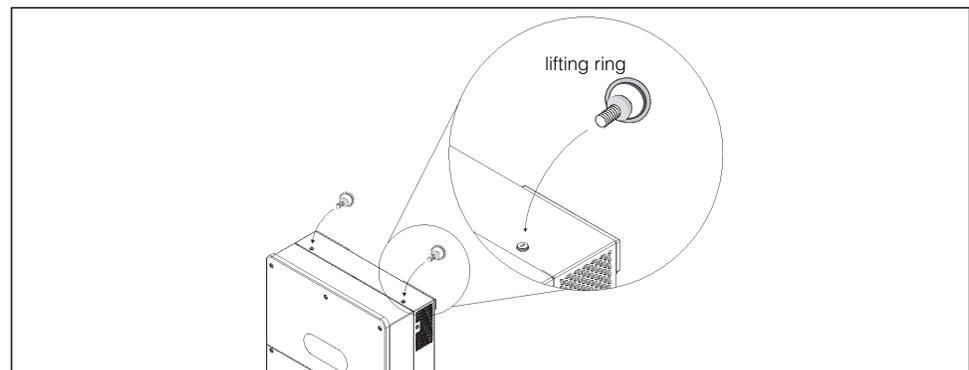

Figure 2-8 Install Lifting Rings
9. Install the two lifting rings (supplied) at the top of the inverter as shown in Figure 2-8. The holes at the top of the inverter can accommodate an M12-bolt lifting ring.